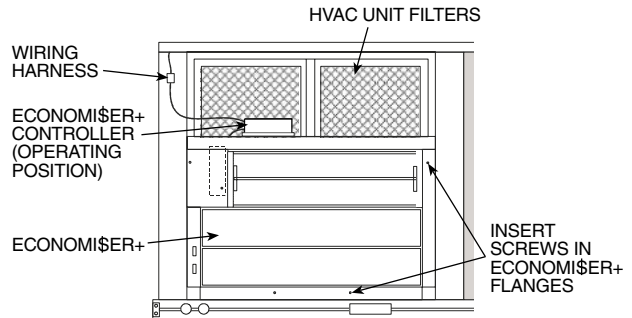

Fig. 6 — EconoMiSer+ Installed in HVAC Unit (3 to 6 Ton Shown)
7. Slide the EconoMiSer+ assembly into the rooftop unit. See Fig. 6. Remove the shipping tape holding the EconoMiSer+ barometric relief dampers in place. Be sure to engage the rear EconoMiSer+ flange under the tabs in the return-air opening of the unit base. See Fig. 7.